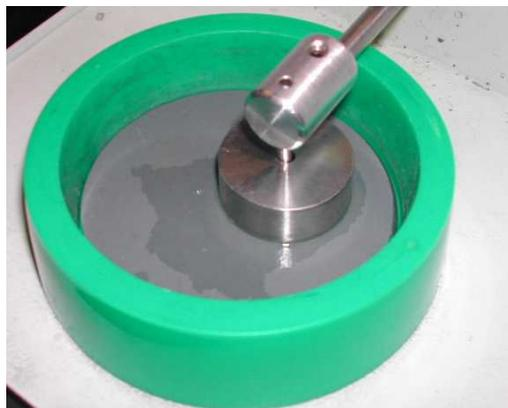

Figure 5: Ready to begin Polishing
9. The bowl should look like Figure 5 before starting the polisher. Start the machine by pressing the Run button. The machine will start out slowly. Once it gets up to the set speed and load, the timer will start counting down.